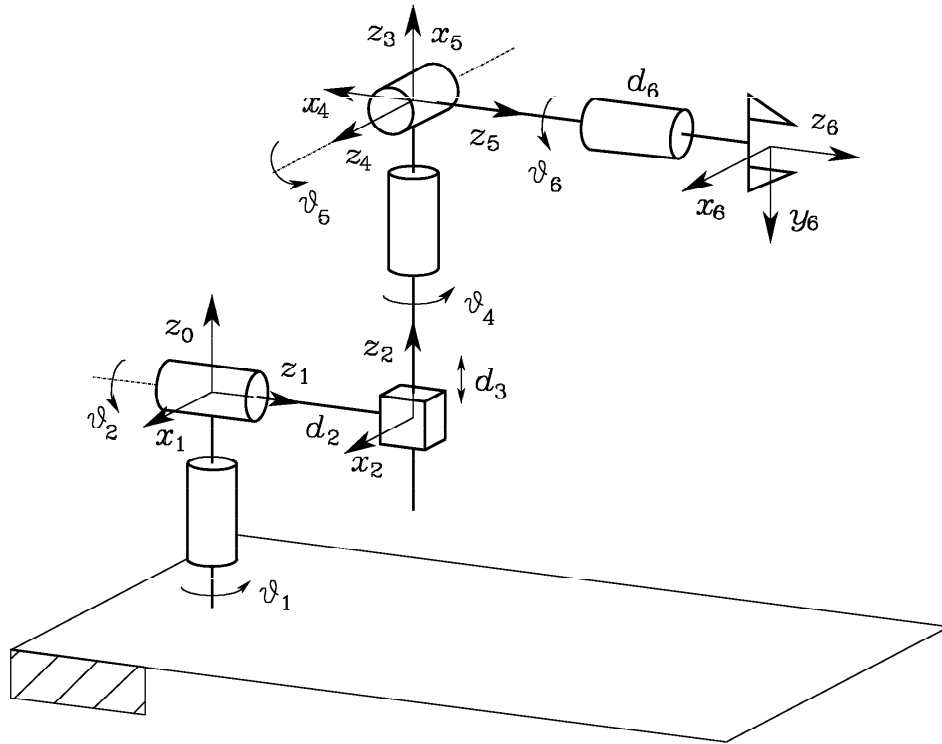

Figure 2: Q2
2. For the stanford manipulator shown in Fig. 2, derive the forward kinematic equations using the DH-convention